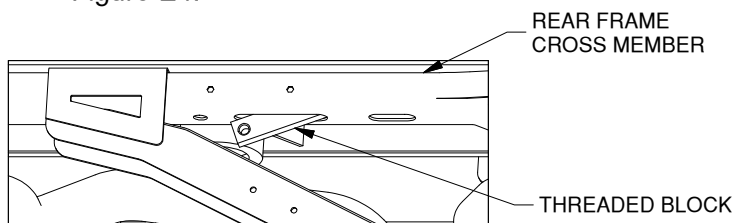
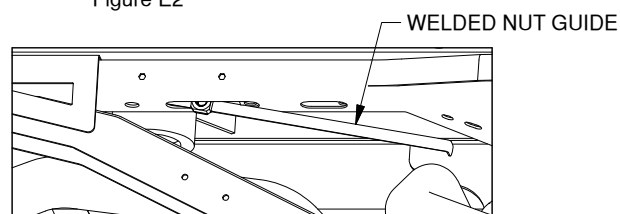
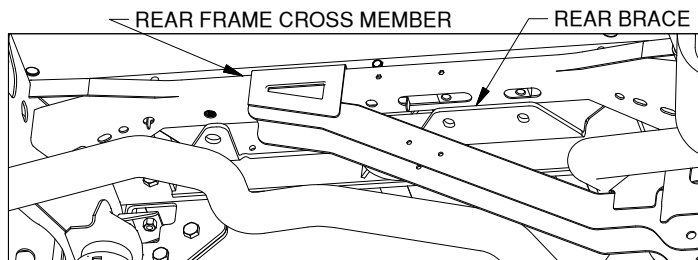

Figure E2
Figure E3
Figure E4
2. **Install the bolt guides.** Locate the rear frame cross member. First, install the threaded block by passing it through the slot in the frame cross member, as shown in Figure E2. The side of the threaded block which has the chamfered holes needs be down. Second, with the welded nut guide on edge and the flanges facing the cab, install the guide by passing it through the slot, as shown in Figure E3. After the nut is in the tube turn the flanges so they are facing down. Pass the nut guide into the slot until the end of the guide is visible in the hole in the cross member on the driver side of the frame. Pass the end of the guide through the hole, as shown in Figure E4.